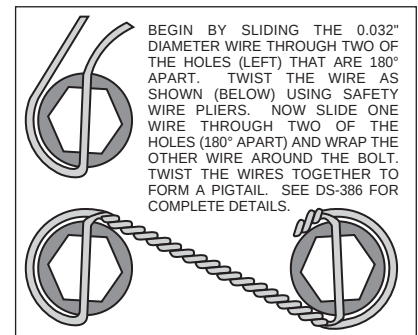

Figure 4. Safety Wire Diagram
•The rotor (3) has two sides. A flat side and an inset side. Bolt hat (2) to flat side of rotor (3) using bolts (5). Using an alternating sequence, apply red *Loctite*® 271 to the threads and torque bolts to 25 ft-lb. For an added measure of security, the bolts may be safety wired using standard 0.032 inch diameter stainless steel safety wire as shown in Figure 4. Refer to Wilwood's data sheet DS-386 (available at www.wilwood.com/Pdf/DataSheets/ds386.pdf) for complete safety wire installation instructions.
•Align the correct hole pattern in the hat (2) with the stud pattern on the axle flange. **NOTE:** Some OEM and after market axles come with stud sizes larger than 0.50" diameter. Verify stud size and have a qualified machine shop drill the hats to the correct size. Slide the hat/rotor assembly (2 and 3) over the wheel studs and against the axle flange face.